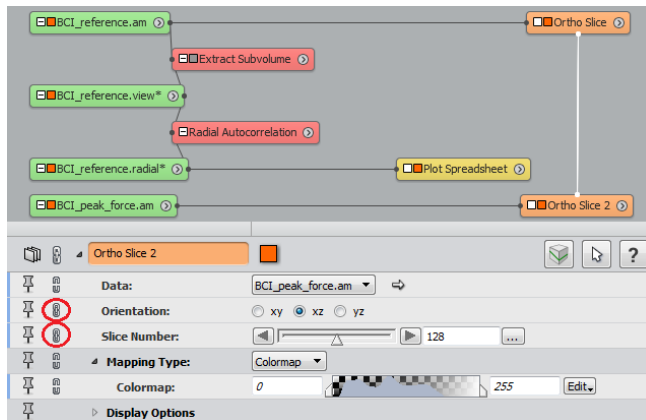

Figure 20.5: Connections between Ortho Slices
- Link the Ortho Slices attached to *BCI_reference* and *BCI_peak_force* using the Connection Editor (drag the *Slice number* port and the *Orientation* port of one Ortho Slice to the other on the Project View) (see Figure 20.5).